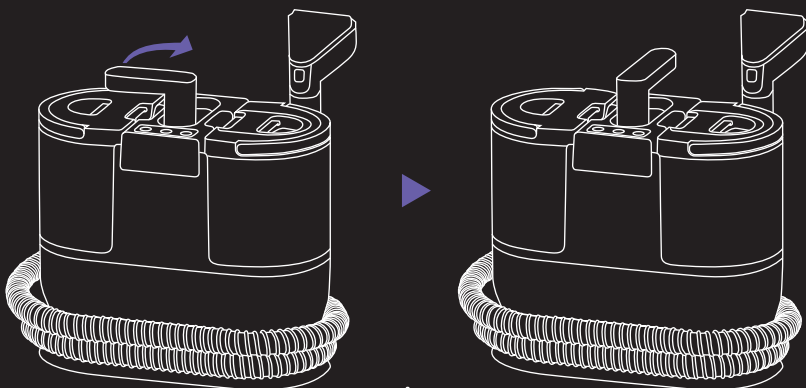

Fig. 1
2. Insert the main handle directly into the locking mechanism as shown (Fig. 1). Turn the handle 90 degrees clockwise until it "click", which indicates that the handle is locked.